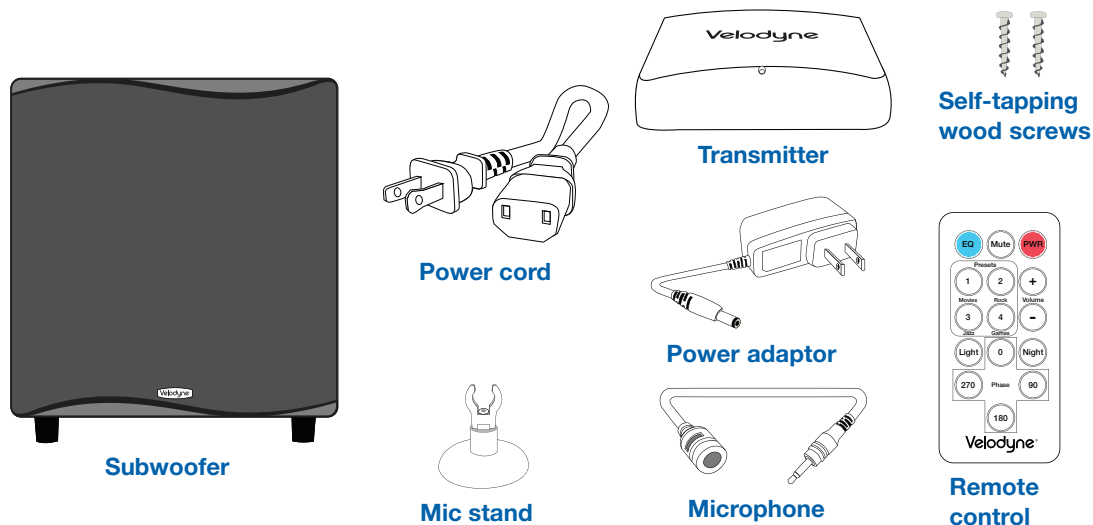

Figure 1: Wi-Q package contents
4. Make sure you have all the items shown in Figure 1. If any items are missing or damaged, contact the retailer where you purchased this subwoofer.